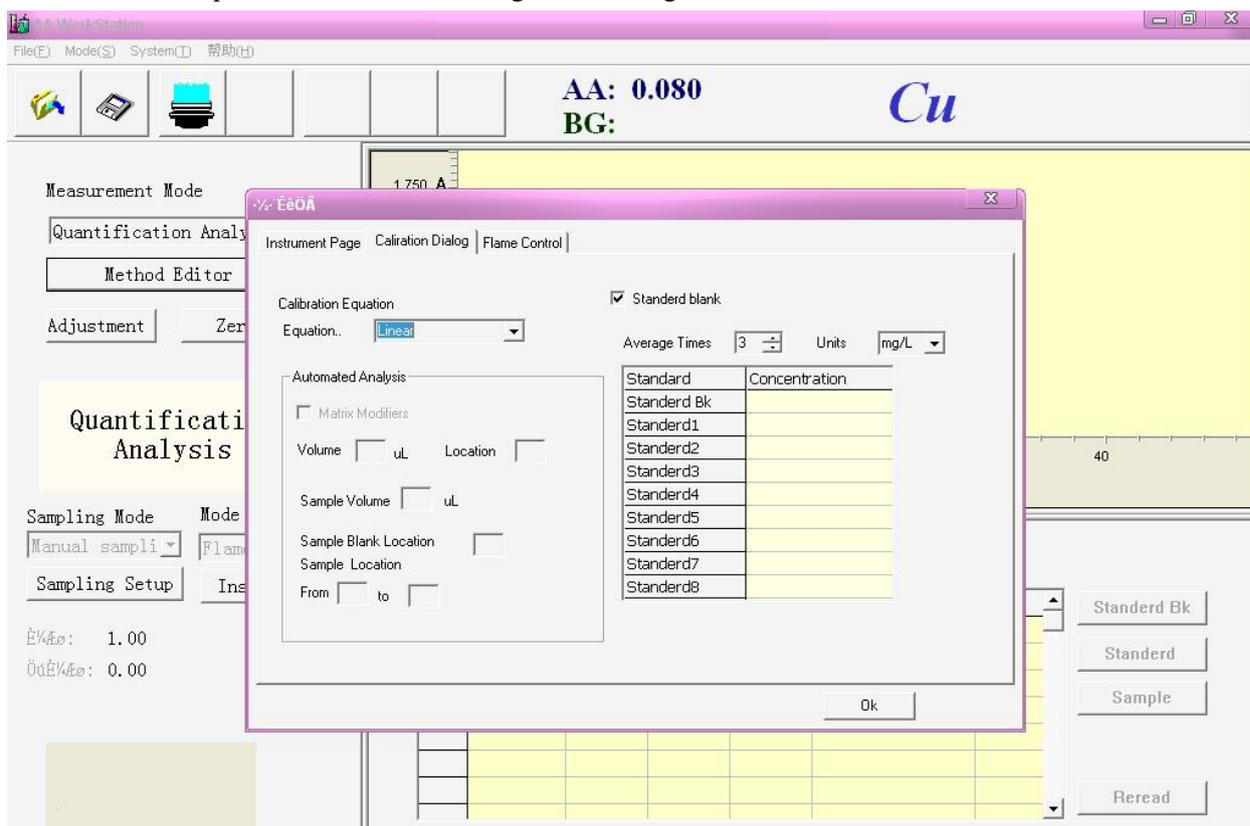

Figure 5-31
5. Press **【OK】**, open the “Calibration Dialog” window. figure 5-31